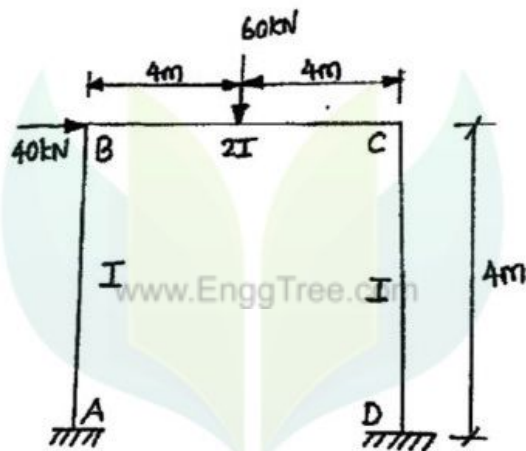

Fig. Q14 (a)
14. (a) Analyze the rigid frame shown in the Fig. Q14(a), by flexibility matrix method.